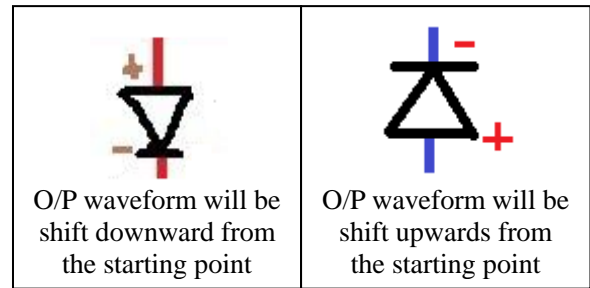

Fig.6: Diode Direction with polarity
9. The polarity of diode will be checked as shown in the figure 6. If the cathode of the diode (Negative sign or arrow direction) is in upside, it will shift the output waveform in upward otherwise downward.